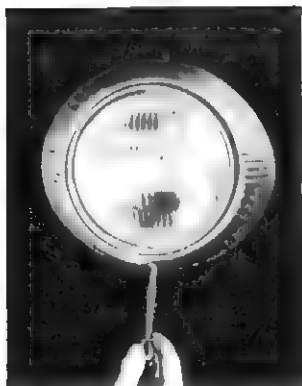

Fig. 37 Remove Headlamp Door Rim
1. Remove headlamp door rim. (See Fig. 37.)